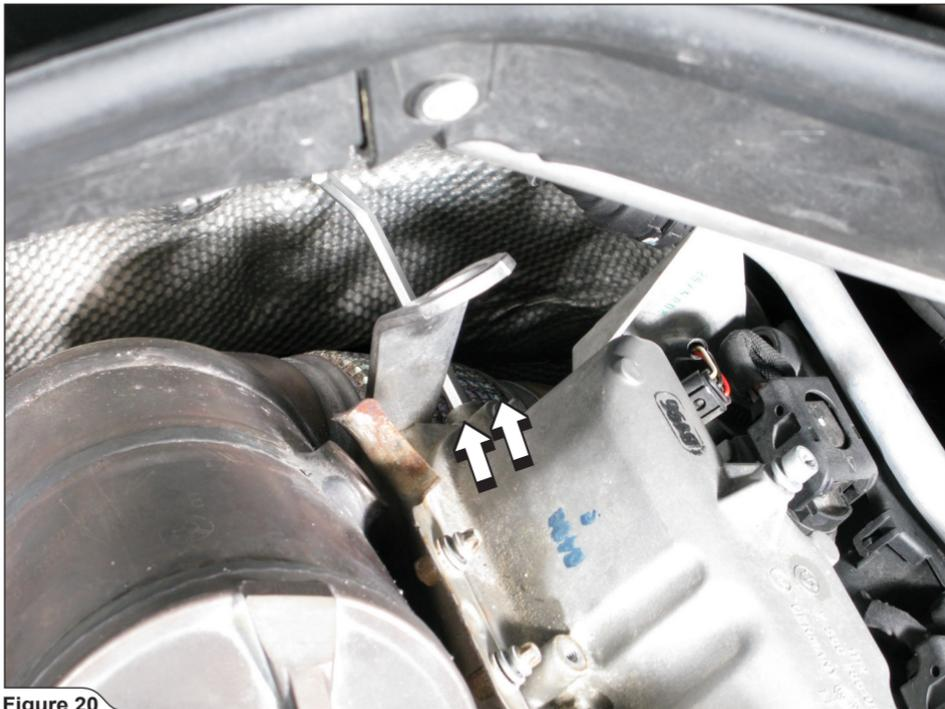

Figure 20
22. **For optional Down Pipes:** unscrew two marked rear bolts on both side of the engine and remove the down pipes (**Figure 20**).